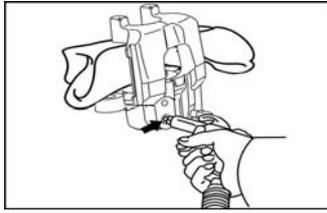

Fig. 2-65
- ① Place a cloth or equivalent between the slave cylinder and piston.
- ② Blow out the piston from the brake slave cylinder by compressed air. See Fig. 2-65.